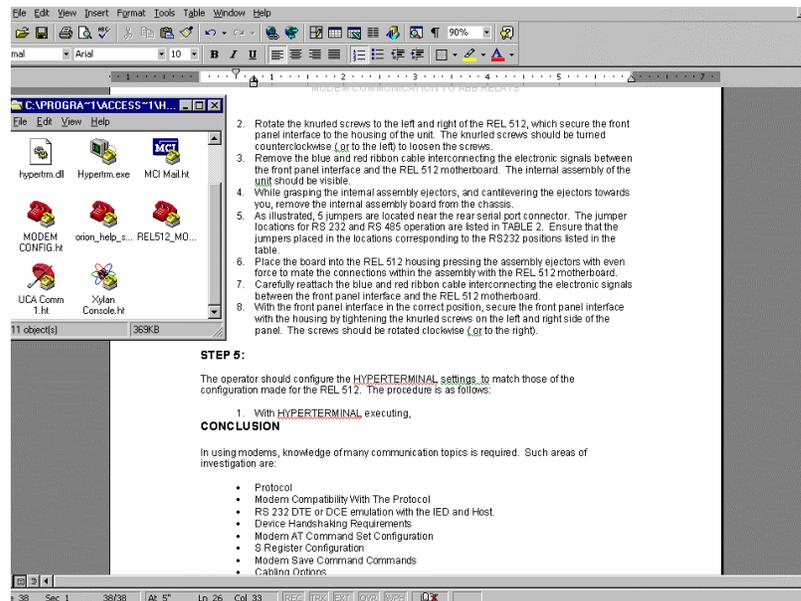

Figure 34. Hyperterminal Selection Screen
1. Select HYPERTERMINAL from the WINDOWS menu to reveal the following screen illustrated in Figure 34.
NOTE 1: This local modem is only configured for DIAL OUT capability – no auto answer. Additionally, all commands are echo'ed back to the terminal for easy access and troubleshooting. Upon Power UP the NVRAM defaults are loaded into memory. It is also illustrates in Figure 34 that handshaking is enabled. No other parameters have been changed from the default settings.